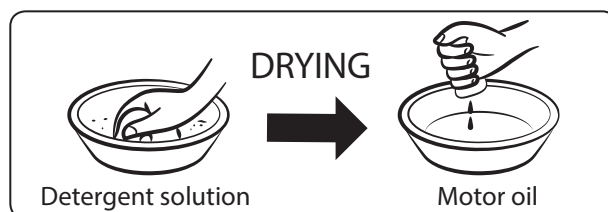

Fig. 10
- The here mentioned numerical values of the guaranteed acoustic power level meet the directive 2000/14 ES, however since the acoustic power level exceeds 80 dB (A), persons in the vicinity of the compressor and persons in its vicinity should use certified hearing protection with a sufficient level of protection. Despite the fact that there is a certain correlation between the values of emitted noise and noise exposure levels, it is not possible to reliably use them to determine whether other measures are necessary or not. Factors that affect the current level of noise exposure of workers include the properties of the rooms in which they are working, resonance with the surrounding environment, other noise sources, e.g. number of machines or other work process being performed in the vicinity and also the duration of the time for which the worker is exposed to the noise. Also, the permitted level of exposure may differ from country to country. Therefore, after the installation of the compressor at a workplace, have the noise level measured by an authorised person to determine the noise load placed on the worker so that a safe exposure time and the required noise damping/attenuation of the protectors can be set.
- 2) Allow the dry filter to soak up motor oil and thoroughly squeeze out any excess, however do not wring it too much as this could tear it, see fig. 10. A filter that is insufficiently wrung out, will cause an insufficient air flow. Soaking the filter with oil is important for increasing the filtration efficiency.